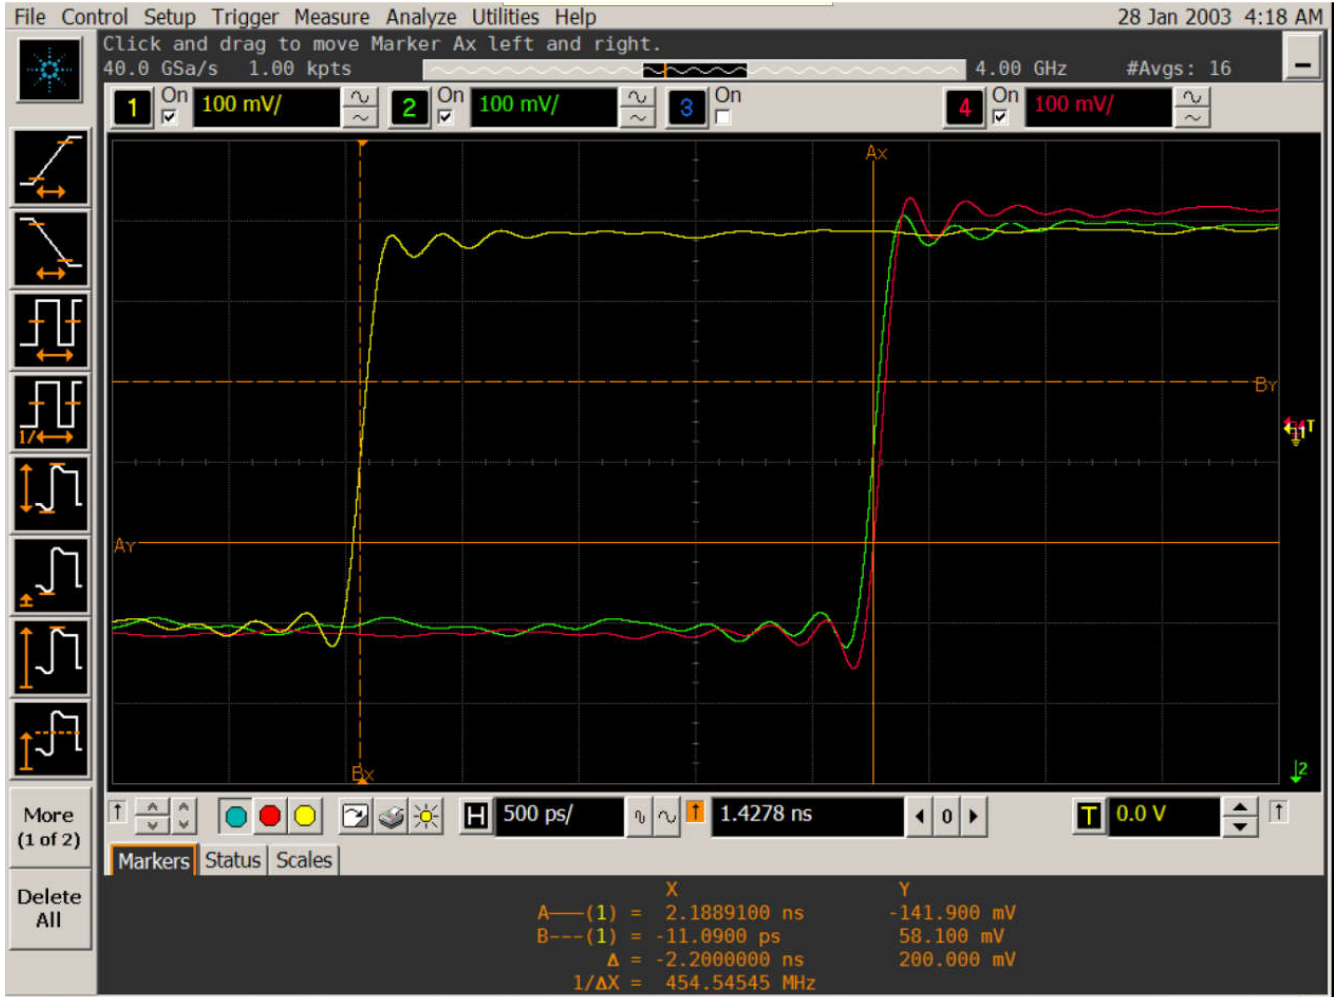

Figure 6-1. Waveforms for Secondary1, and Secondary2 in Repeater Sync Mode with Primary in Continuous Mode
1. SYSREF_MODE is made 3 Figure 6-1 shows the repeated synced output on Secondary1 sysrefout2_p(red) and Secondary2 sysrefout2_p(green) from Primary sysrefout2_p(yellow).
2. Major difference between Figure 6-1(repeater sync) an Figure 5-2 (repeater non-sync) is that in repeater sync mode, pin3 is synced with the input clock and 2 delay clock cycles is seen. In this example, Clock input is 1GHz, so extra delay of 2ns is expected.